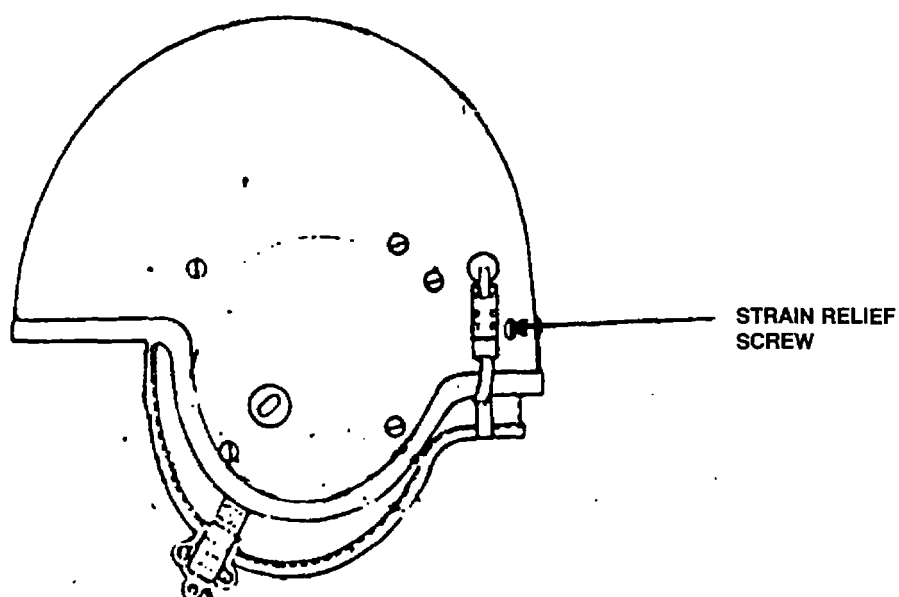

Figure 3-10. Location of Communications Cord Strain Relief
4. Remove screw, washer, and post securing cord strain relief from left rear of helmet (see Figure 3-10).